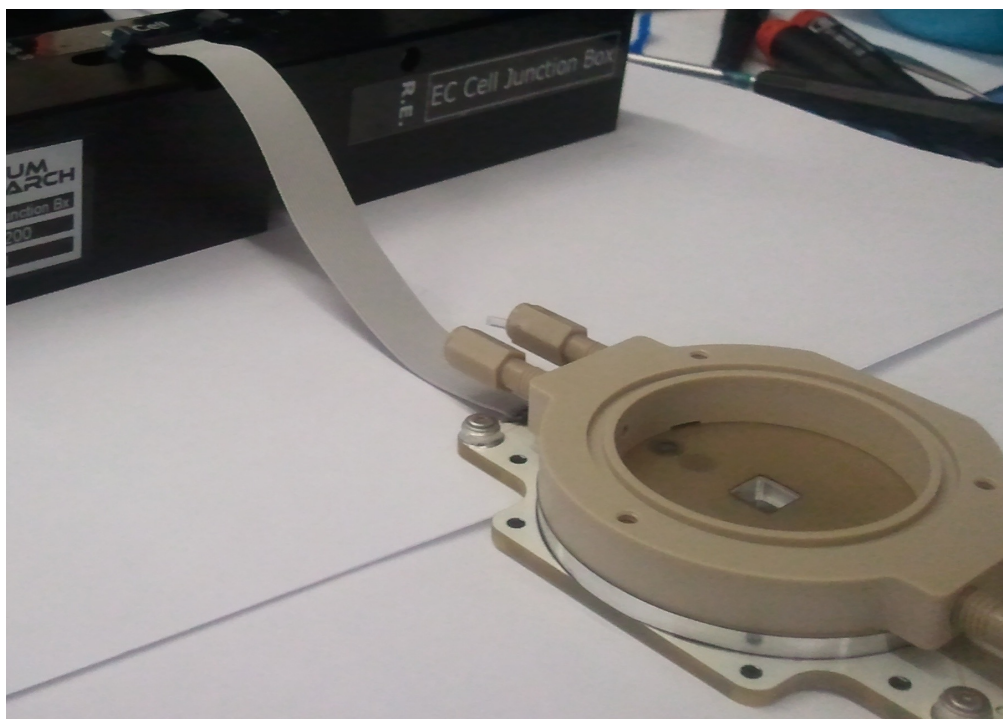

Figure 33.19.: EC Cell assembled with the heater stage installed.
3. Re-assemble the EC cell, but this time using the circuit board with the aluminum heater attached. The basic process is described in Section 33.5 on page 495. The final assembly should look like Figure 33.19 on page 522.